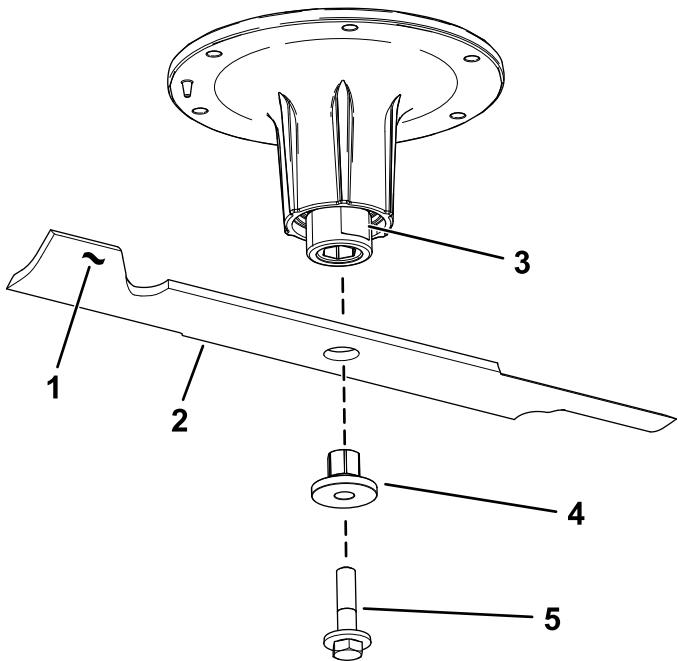

Figure 85
2. Remove the blade bolt, bushing, and blade from the spindle shaft (Figure 85).